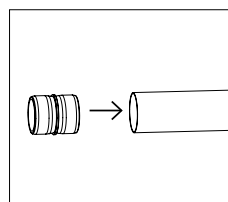

Figure 10a
- a. For the 2' pole section (40" from floor), insert the plastic connector and end cap onto each end of the closet pole (**Figure 10a & 10c**).